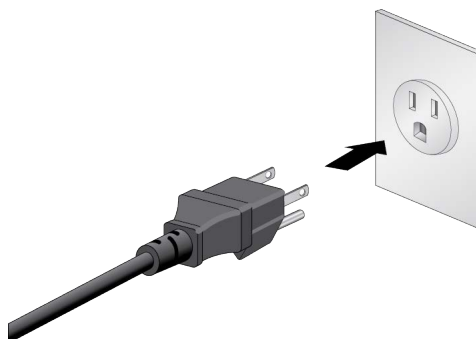

Figure 66. Connecting the Power Cord to an AC Power Source
4. Connect the power cord to an appropriate AC power source. See Figure 66.